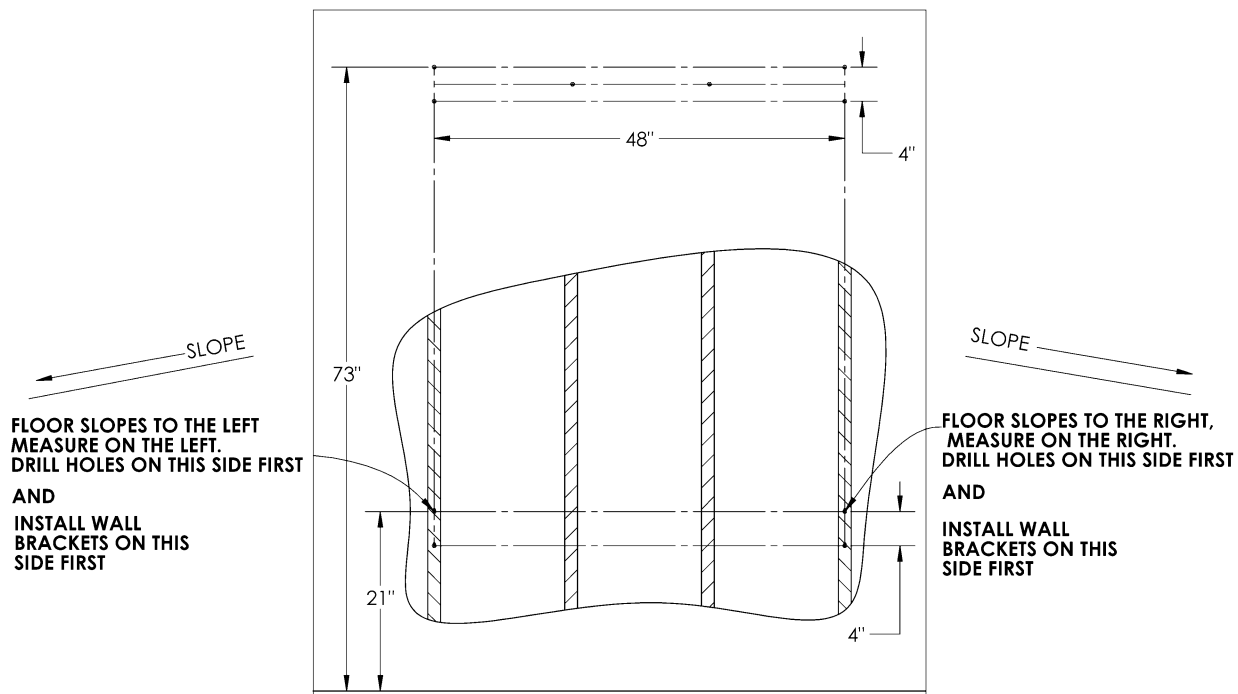

Figure 2: Hole Drill Locations
1. Determine if your floor slopes down to the left, down to the right, or is flat (**Figure 2**). If it slopes down to the left, start with the far-left stud. If it slopes down to the right, start with the far-right stud.
2. Locate two studs spaced 48" apart, and all studs in between, using a stud finder (**Figure 2**).